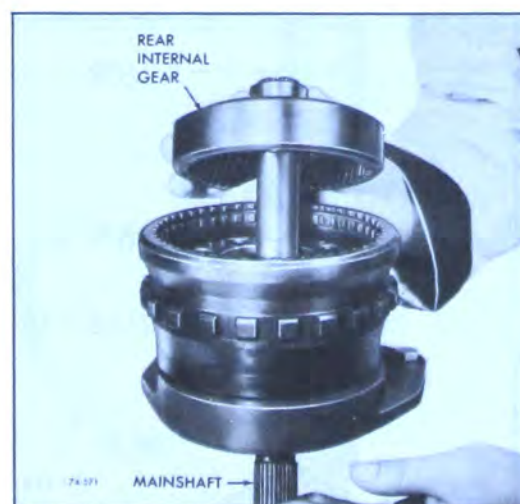

Figure 74-571
12. Remove rear internal gear and mainshaft. See Figure 74-571.